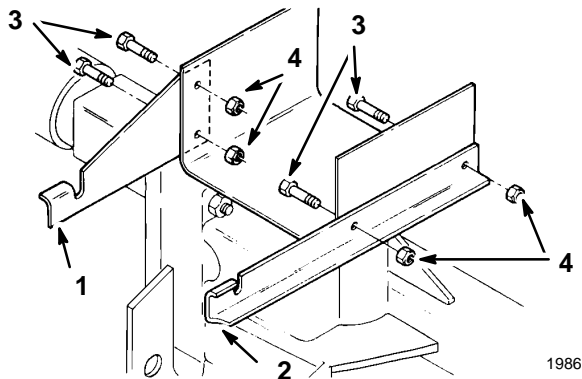

Figure 1
1. Remove (4) bolts and nuts from the rear of the tractor frame and discard (Fig. 1).
2. Mount the (2) support brackets against the tractor frame with (4) 5/16 x 7/8" (22 mm) bolts and 5/16" lock nuts (Fig 1). Place the wide bracket on the left side and narrow bracket on the right side.